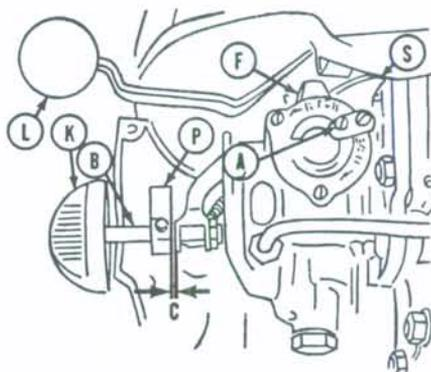

Fig. OM1-3 — View of carburetor showing points of adjustment.
Assemble by reversing the disassembly procedure. Insert float valve through bottom of bowl and install lower lock (7) in lower groove in shaft. On most carburetors, the float level is positively fixed by machined grooves in float valve shaft. If shaft is not grooved, set float locks so that top of float is 1/2-inch below top of float bowl with valve in closed position. Install and lightly seat the high speed needle (25); then back needle out 1/2-turn. Without moving needle, install primer lever (23) and spring (22); then install primer cam (24) with cam pointing upward as shown in Fig. OM1-2. Leave 1/8-inch clearance between primer cam and primer lever as shown at (C—Fig. OM1-3). Install knob (26) with arrow pointing upward as shown in Fig. OM1-2.
After carburetor is installed, warm engine and move operating lever (L—Fig. OM1-3) to high speed position. Turn high